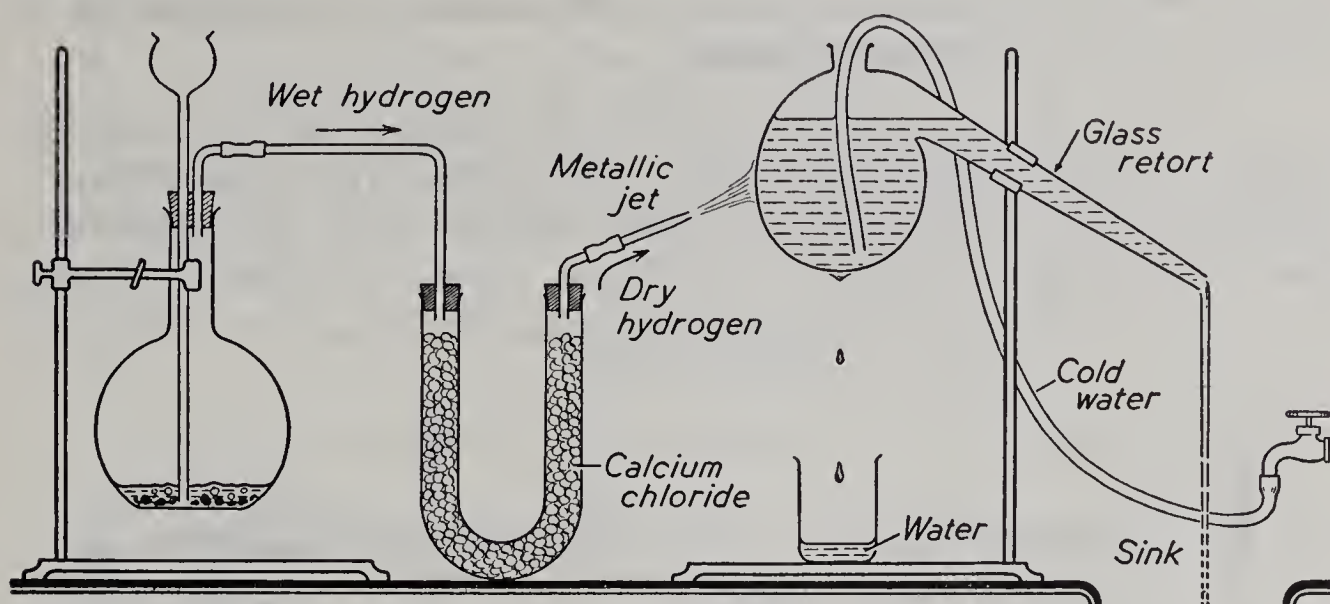

Fig. 34. Burning dry hydrogen at a jet.
1. Set up the apparatus as shown in Fig. 34, making sure that there is a plentiful supply of zinc in the flask and an additional